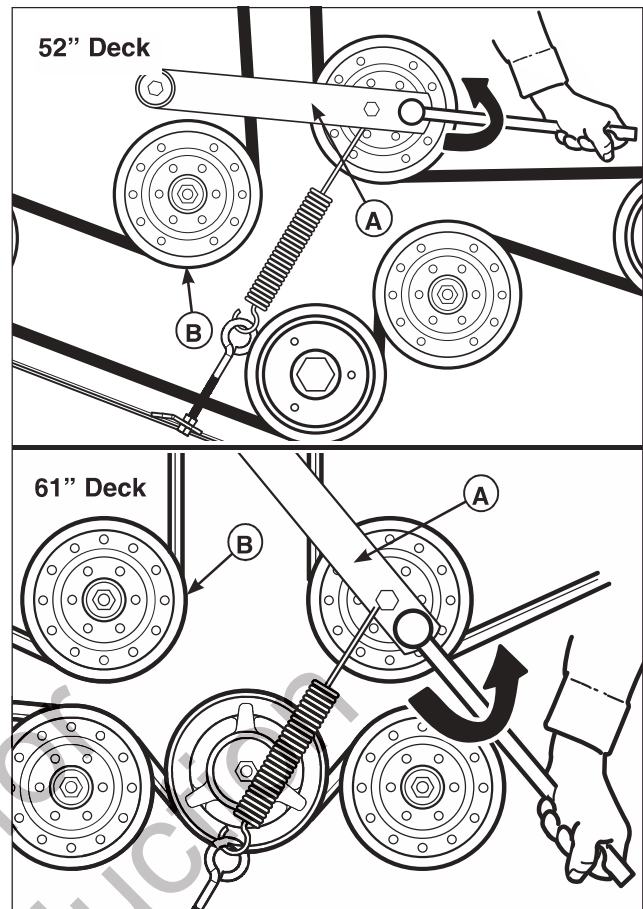
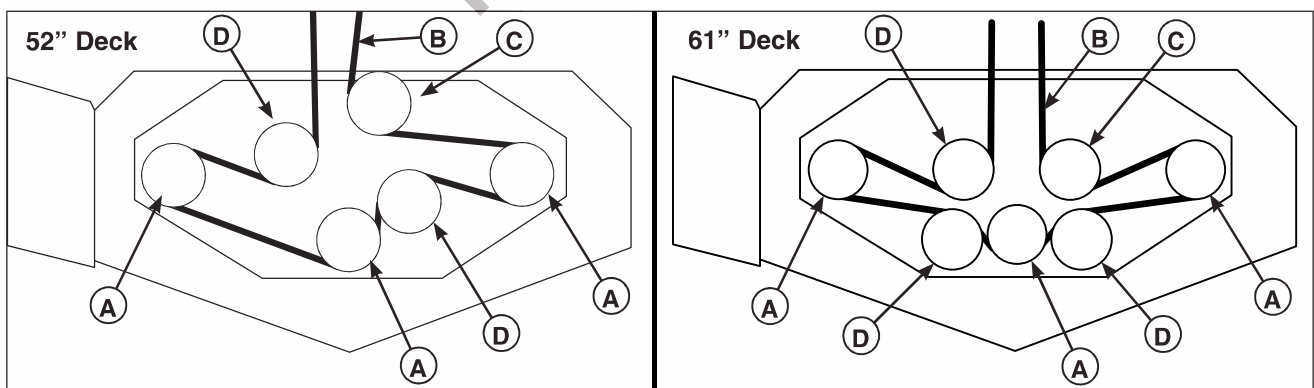

Figure 59. Mower PTO Belt
Figure 60. Mower PTO Belt Routing
2. Using a 1/2" breaker bar, place the square end in the square hole located in the end of the idler arm (A, Figure 59). Carefully rotate the breaker bar counter-clockwise, which will relieve the tension on the belt exerted from the idler arm.
3. Slide the drive belt over the edge of the stationary idler pulley (B). Carefully release the tension on the breaker bar until the idler arm stops against the center spindle pulley.
4. Remove the old belt and replace with a new one. Make sure the V-side of the belt runs in the pulley grooves (Figure 60).
5. Install the drive belt on the PTO pulley, the spindle pulleys and all idler pulleys except the stationary pulley (B, Figure 59). Carefully rotate the breaker bar counter-clockwise and install the belt on the stationary idler pulley (B). Carefully release the tension on the breaker bar.